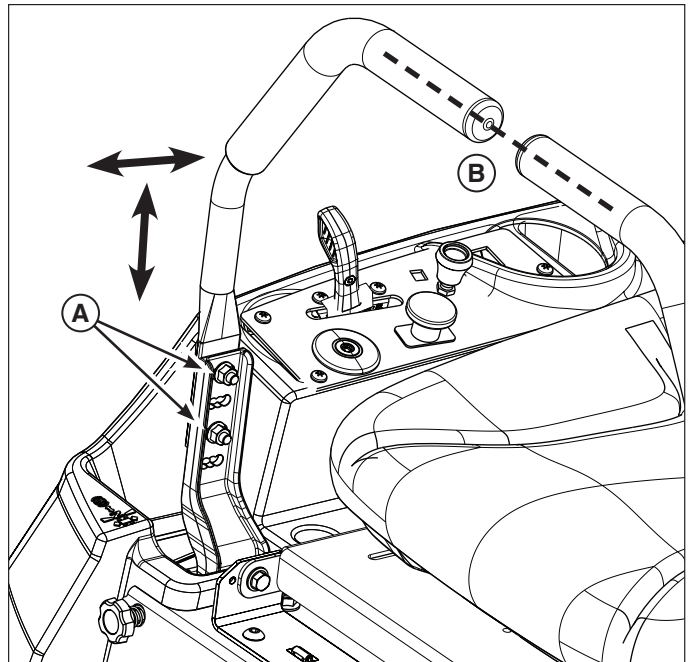

Figure 18
Loosen the ground speed lever mounting hardware (A, Figure 18) to adjust the levers forward and backward. Remove the hardware to raise or lower the levers. Always be sure to adjust both levers so that they are aligned (B). After adjustment is complete, tighten the hardware to 13 lb-ft (18 Nm).